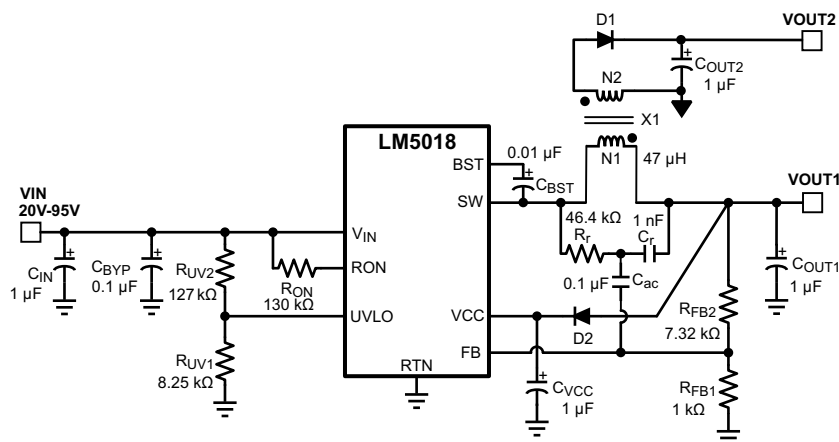

Figure 17. Isolated Fly-Buck™ Converter Using LM5018
An isolated supply using LM5018 is shown in Figure 17. Inductor (L) in a typical buck circuit is replaced with a coupled inductor (X1). A diode (D1) is used to rectify the voltage on a secondary output. The nominal voltage at the secondary output (V_{OUT2}) is given by Equation 20.